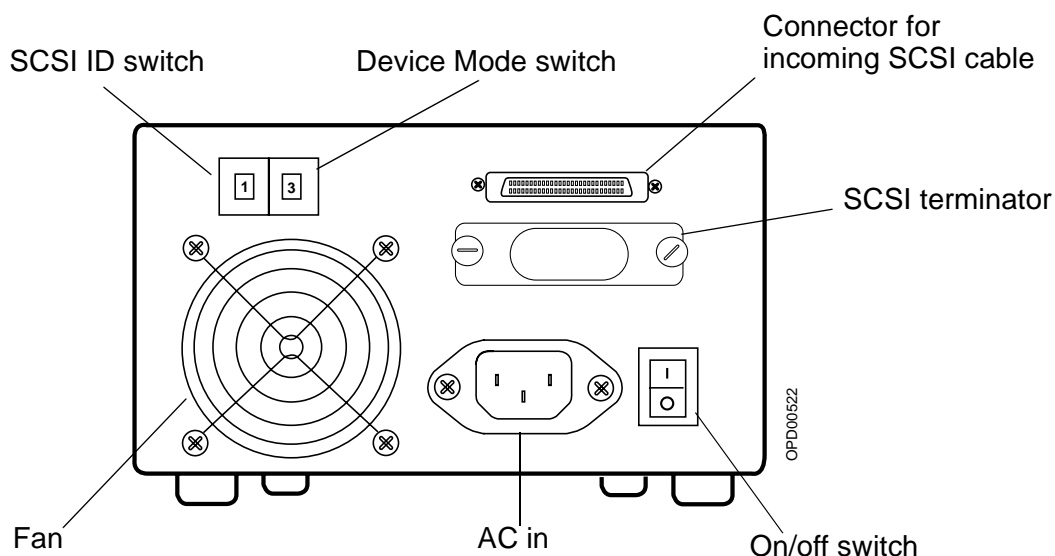

Fig. 2 MO unit, back view
1. Disconnect the power supply cable (AC in) and SCSI cable from the back of the unit (Fig. 2).
2. Unplug the SCSI terminator from the back of the unit (Fig. 2).